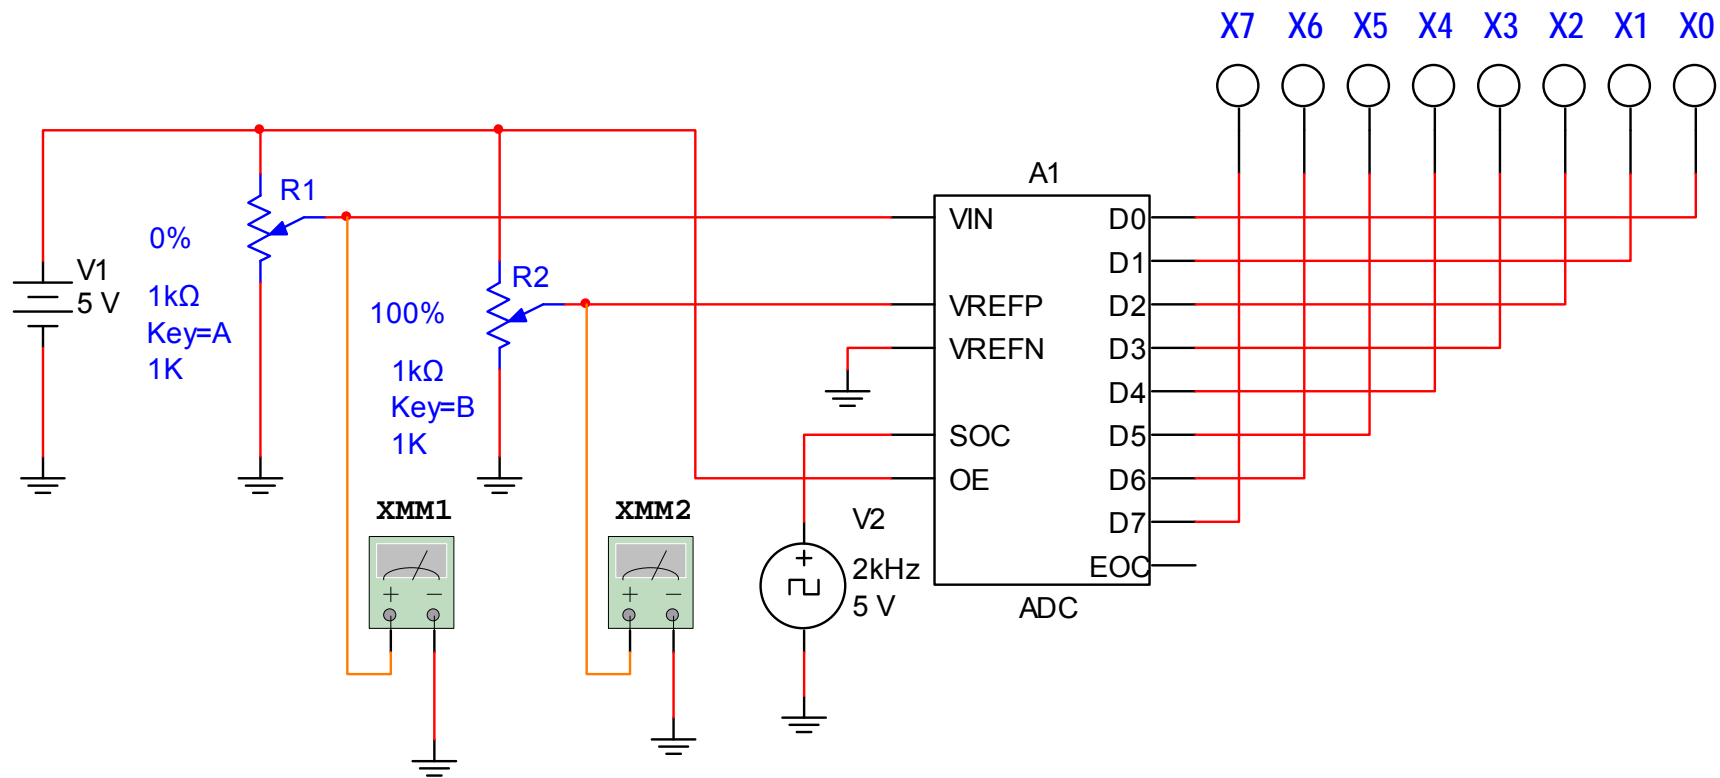

Figure 4-1. ADC output with the analog input voltage equal to approximately 0V and +Vref = 5V
Refer to figures 4-1 & 4-2 below for a schematic of such implementation.
Referring to figures 4-1 & 4-2, we see an adjustable reference voltage available to +Vref (VREFP in the schematic) via voltage supply V1 and potentiometer R2. The varying analog input signal is also derived from V1 using potentiometer R1 to provide signal variation to the VIN input of the ADC.
Therefore, in the circuits of figure 4-1 & 4-2:
Referring to figure 4-1:
1. Build the circuit indicated in figures 4-1 & 4-2 using Multisim. Choose 0.1% increment for potentiometers R1 & R2 and set adjustment keys as shown.
Now that you have tested the circuit to satisfy the problem statement using Multisim, it is time to hardwire the circuit depicted in Figures 4-1 & 4-2 using real components. As you did in the previous labs, you are going to indicate the list of components and the equipment that you need to complete this task. Refer to figure 4-3 below for a schematic of the hardwired circuit.